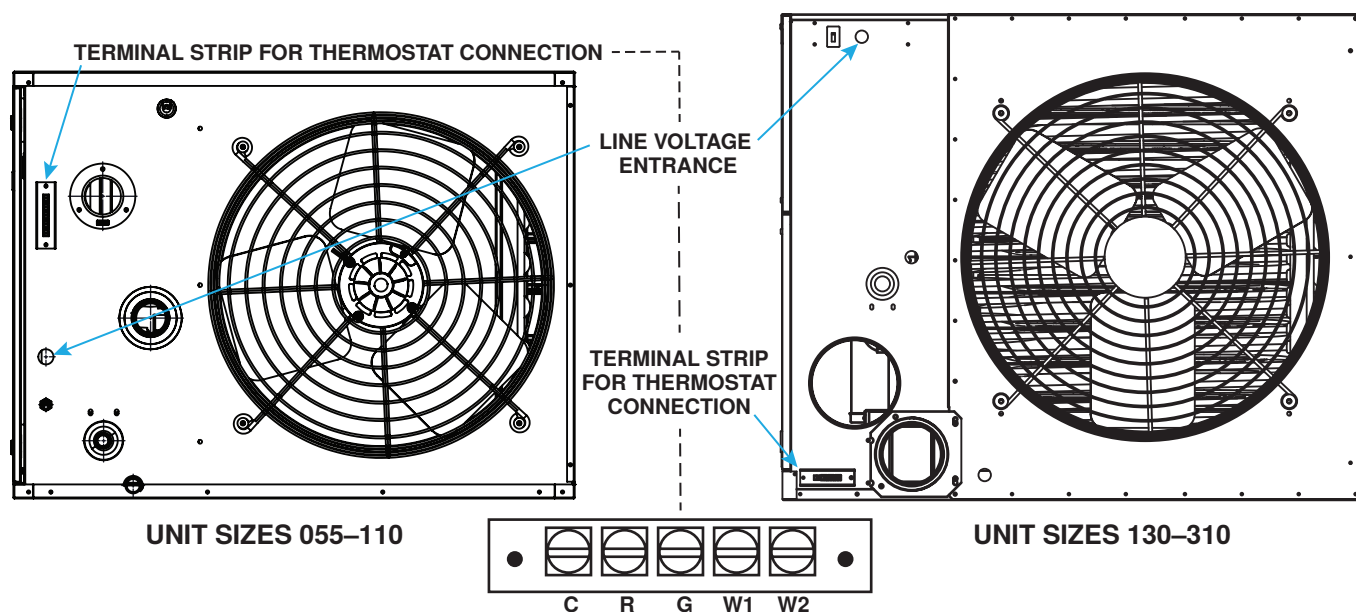

Figure 24. Supply Wiring Entrance and Control Connection Terminal Strip
The supply wiring enters at the rear of the heater, as shown in **Figure 24**. Supply wiring connects to leads located inside a sealed electrical box. To maintain the sealing feature of the electrical box, always replace the cover plate.
- The terminal strip for the 24V thermostat connections is located on the outside of the cabinet at the back of the heater, as shown in Figure 24. The strip has five terminals: C, R, G, W1, and W2. Refer to the wiring diagram provided with the heater. Wires from the terminal strip are factory-wired to the circuit board.